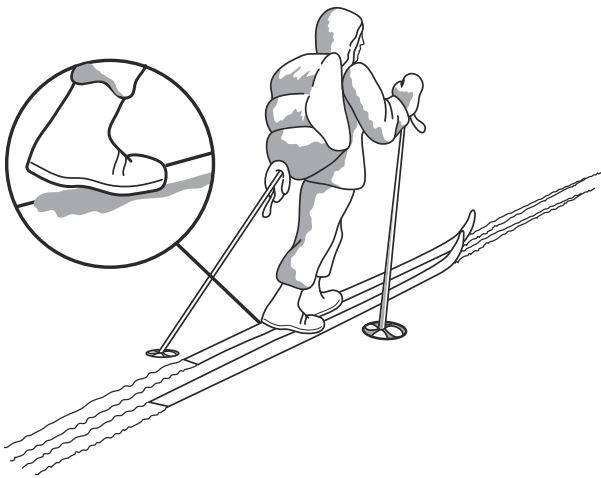

Figure 6-15. Preparations for Crossing an Avalanche-Prone Slope.
- Cross one at a time; belay if possible. Just because one Marine crosses safely, safe passage is not guaranteed for the rest. See figure 6-15 on page 6-10.